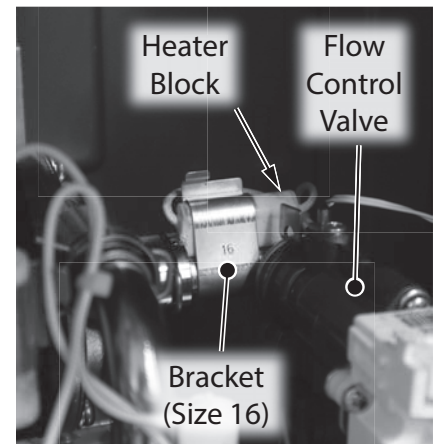

Figure 27 - Remove heater block
- 8 Locate the heater block attached to the pump inlet elbow behind the flow control valve as shown in Figure 27.